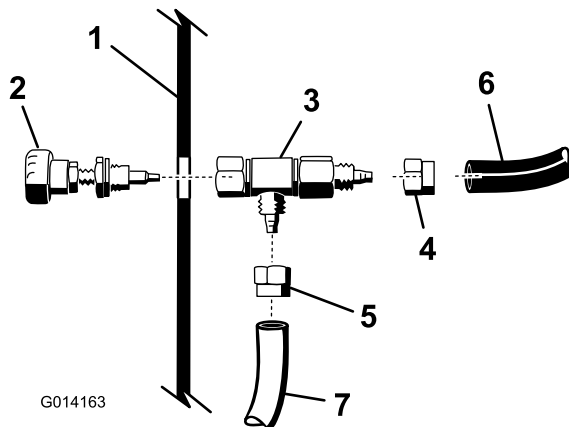

Figure 24
6. Loosen the nut that secures the knob assembly to the tee fitting as shown in Figure 24.
7. Install the blue and white tubes from the foam hose under the dashboard to the tee fitting as shown in Figure 24.